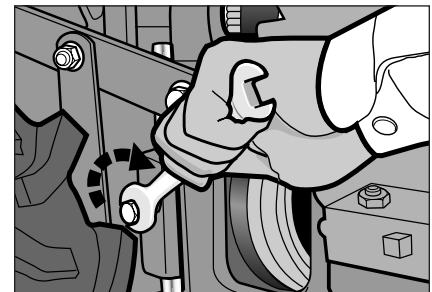

Fig. 4A
6. Using the same wrench, slowly and carefully tighten each screw (Fig. 4A) until you feel the screw touch the engine mounting bar. **DO NOT USE EXCESSIVE FORCE!** Tighten each screw just enough to prevent the engine mounting bars from turning when you later install the bumper mounting screws.